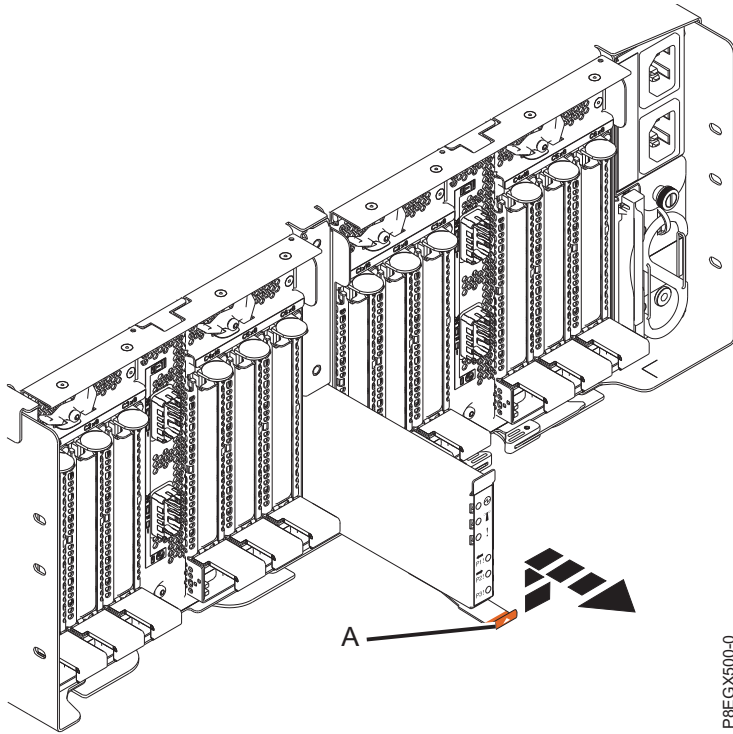

Figure 3. Removing the light pipe conduit from the EMX0 PCIe3 expansion drawer
2. Lift the tab (A) at the bottom of the light pipe conduit. This action disengages the light pipe conduit.
3. Pull the light pipe conduit out of the chassis as shown in Figure 3 on page 4.